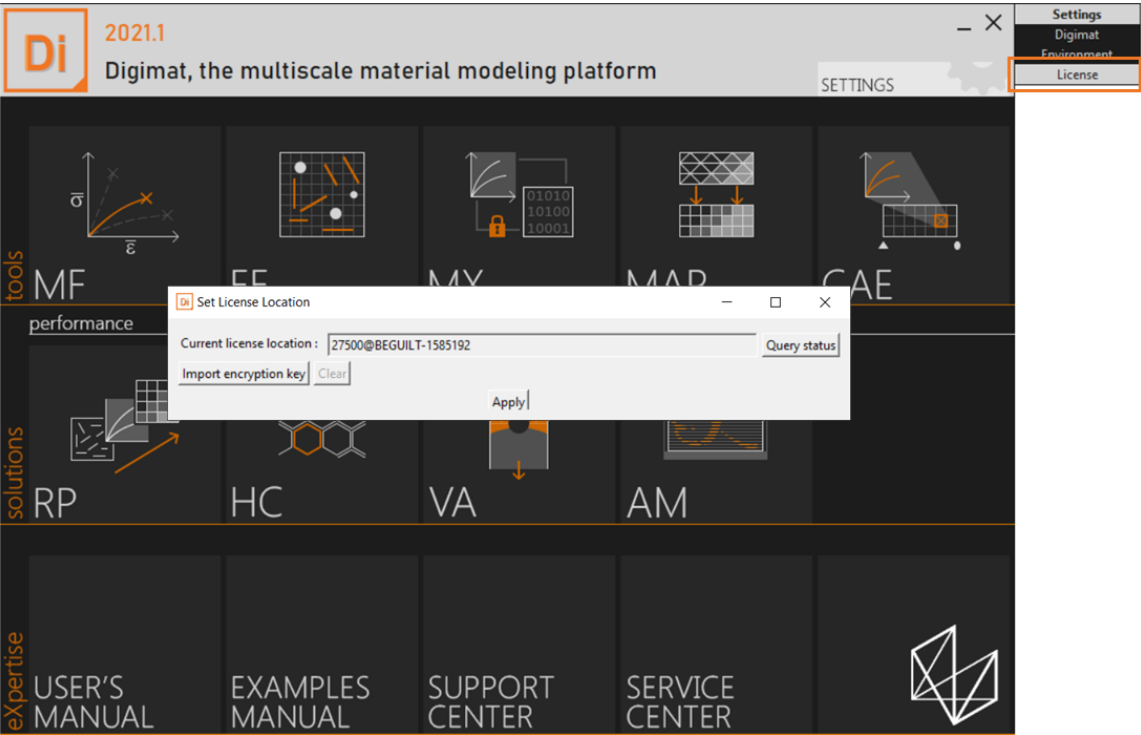

Figure I.1.2: Checking the licensing location via the Digimat GUI.
- Go to the Digimat platform to have access to the license management functionalities (see Figure I.1.2). There you will have access to a button named **Import encryption key**. Click on the button, select your `.priv` file, click **OK** and then click the **Apply** button. Perform this procedure as many time you have received different encryption key files.